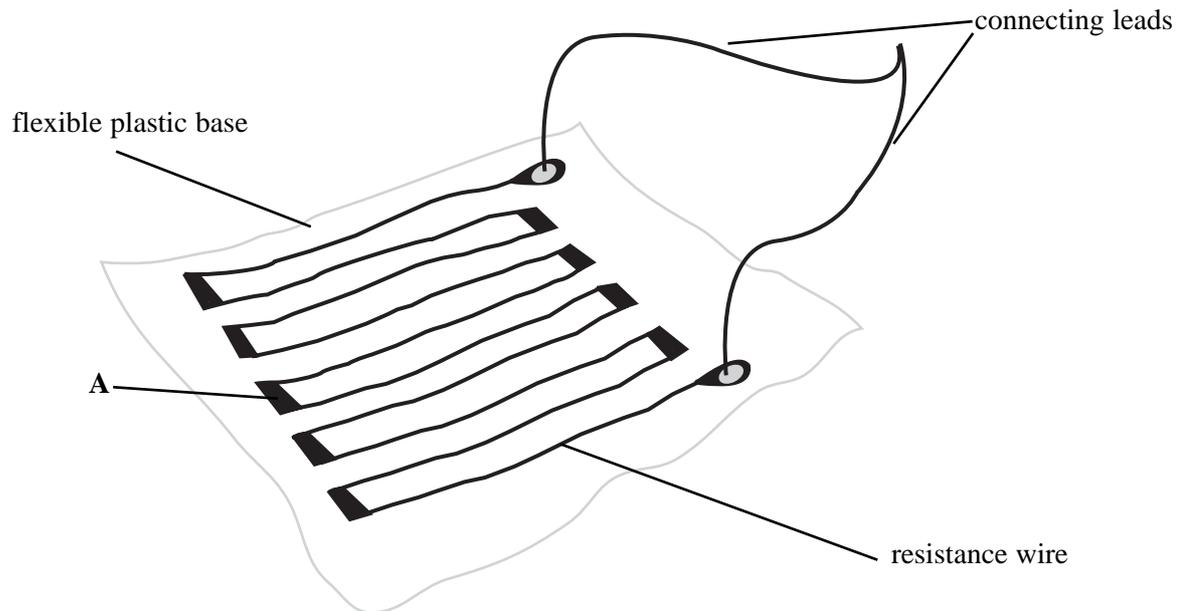

Figure 2
Figure 2 shows a strain gauge, made from a length of resistance wire. The gauge is attached firmly to the object to be deformed. When the object is stretched the wire is also stretched and so it becomes longer and thinner increasing its resistance.
- (i) Using the ruler and hand lens provided, estimate the length of the wire in the strain gauge. You should ignore the thicker portions of the wire, labelled **A**, in **Figure 2**. *(2 marks)*